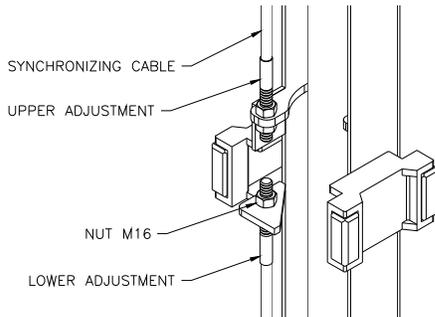

Fig. 6 – Synchronizing Cables
- 18) Attach one end of synchronizing cable to carriage. See **Fig 6** for proper attachment.
- 19) Route cable up and over sheave in overhead. Follow across to other sheave on opposite column. Route down through carriage to sheave in bottom of column. Route under sheave and up to cable attachment. Use **Fig 6** for proper attachment.